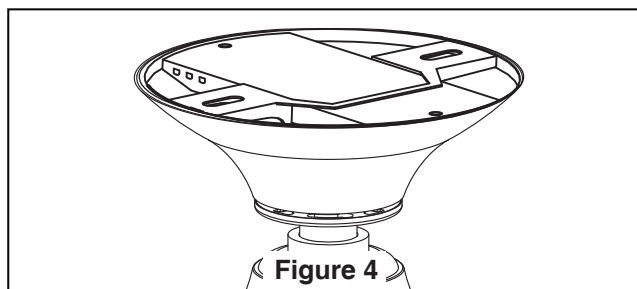

Figure 4
2. Carefully lift the fan and seat the downrod/hanger ball assembly on the hanger bracket that was just attached to the outlet box. Be sure the groove in the ball is lined up with tab on the hanger bracket (Figure 4).
3. Once the connection has been made, slide the receiver into the hanger bracket, taking care not to pinch the wires. The canopy comes up to cover the receiver and hanger bracket. (Figure 4)